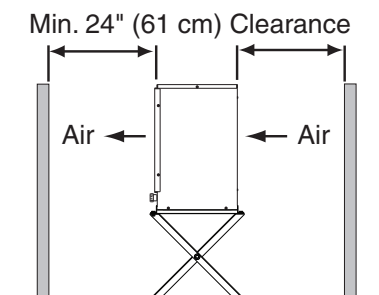

Fig. 11
- A dry and well ventilated area with 24" (61 cm) clearance at front and rear for proper air circulation and ease of maintenance and/or service should they be required. See Fig. 11.